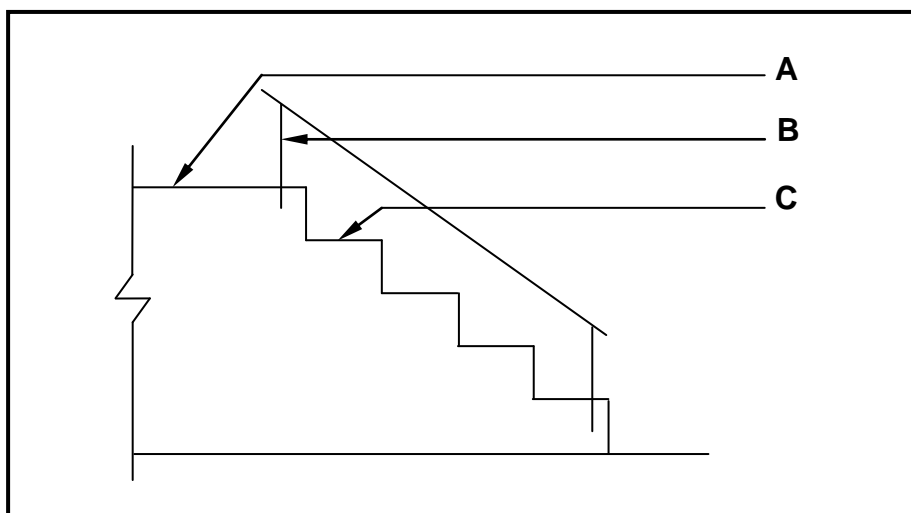

FIGURE 3.4
- 3.4 FIGURE 3.4 below shows a straight flight of stairs. Identify **A**, **B** and **C**. (3)